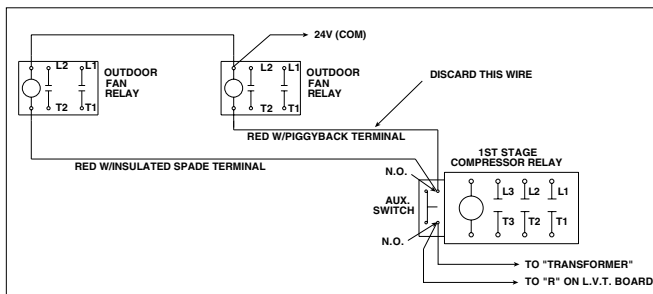

Figure 3a. R4GM-120* Factory Wiring
1. Remove the two “Red” outdoor fan low voltage control circuit wires (one insulated) from the top terminal of the side auxiliary switch on the STAGE 1 compressor contactor (See Figure 3a).